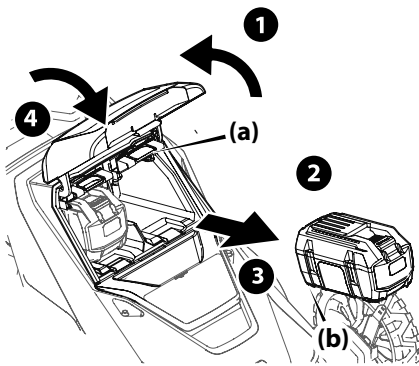

Figure 14
2. Push in the battery release tab (a). See Figure 14 inset.